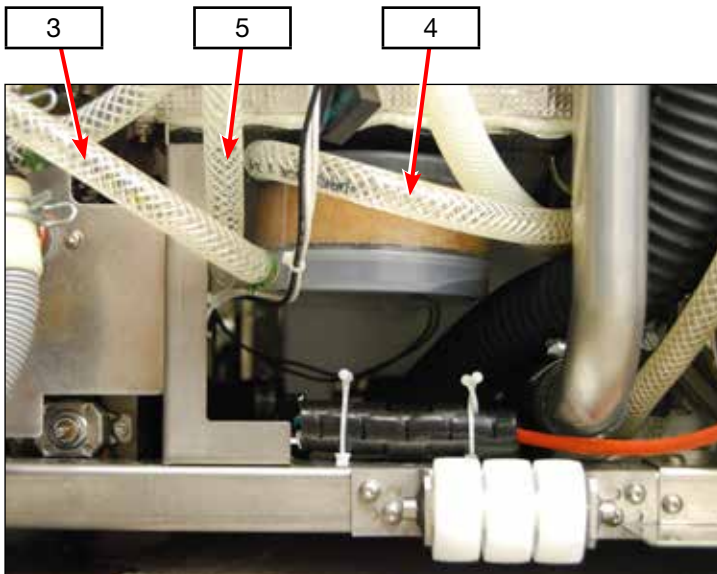

Figure 39c
5. At the rear of the unit, number the water softener hoses according to Figure 39c.